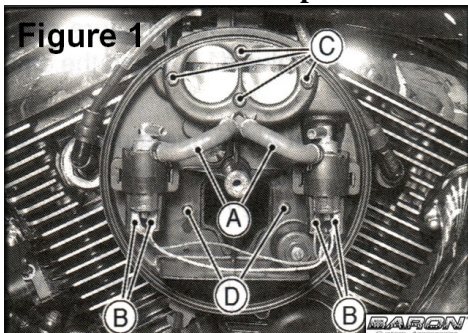
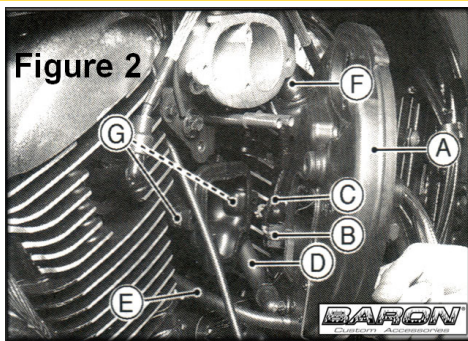

Figure 1
Figure 2
*Remove hoses from the two valves where they come into the backing plate. (A on Fig. 1)
*Remove screws holding backing plate to the cross-over tube. (D on Fig. 1)
*Remove crankcase vent from rear of the backing plate. (D on Fig 2)
*Disconnect electrical connection to the valves. (B on Fig 1 and C on Fig 2)
*Remove Inlet Air Temperature Sensor from backing plate. (B on Fig 2)